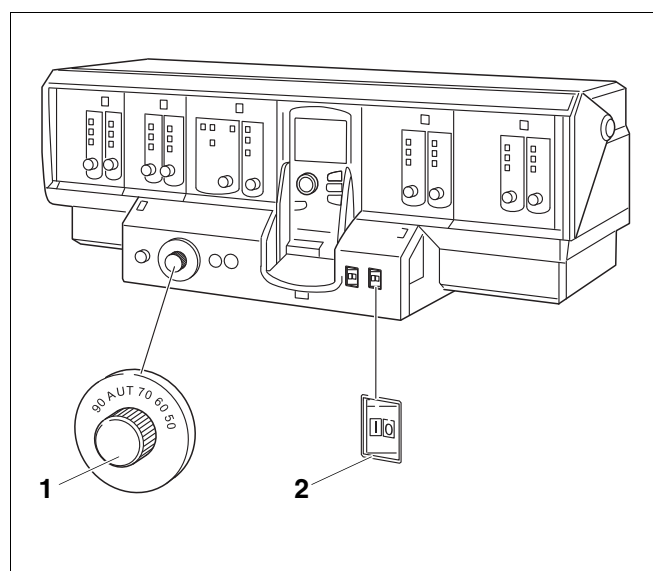

Fig. 3 Control device (for example: Logamatic 4000)
Start up your boiler via the control device (in this example, Fig. 3: series 4000 control device). By commissioning the control device, you also automatically commission the burner. The burner can then be started via the control device. For further details in this connection, see the operating instructions of the relevant control device or burner.
- Switch the boiler water thermostat (Fig. 3, **item 1**) to "AUT".
- Set the On/Off switch (Fig. 3, **item 2**) to "I" (ON).
- Set the On/Off switch (Fig. 3, **item 1**) to "0" (OFF).